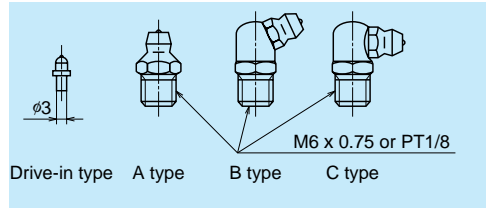

Fig. II-4-1 Shapes of grease fitting
(1) Types of lubrication accessories
- Fig. II-4-1 and II-4-2 show linear guide grease fittings and tube fittings.